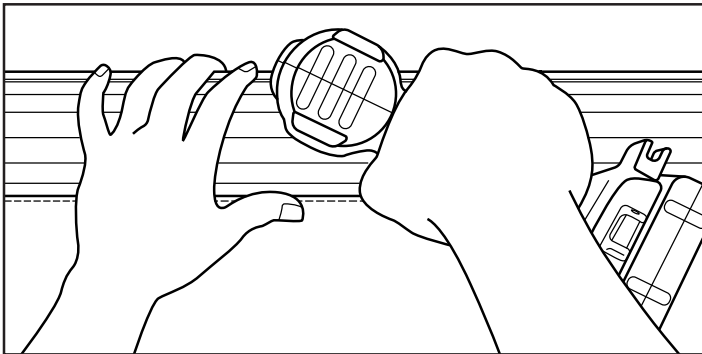

Fig.4
5. Drill a $\frac{3}{8}$ " hole at the mark made on the roll tube (Fig.4).